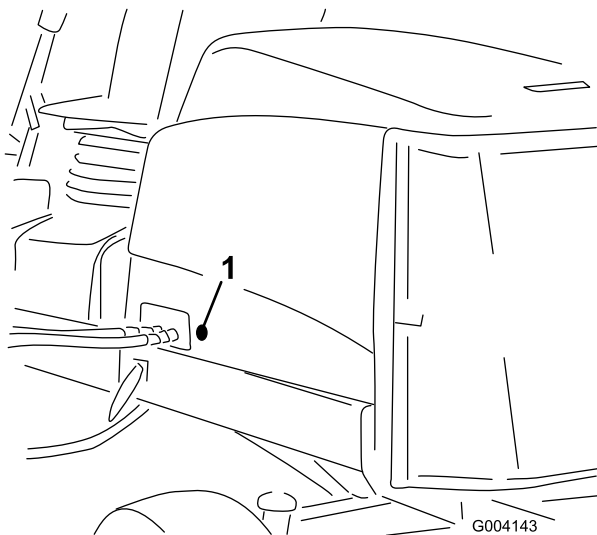

Figure 15
2. Remove the rubber grommet from the hole in the left side of the hood (Figure 15).